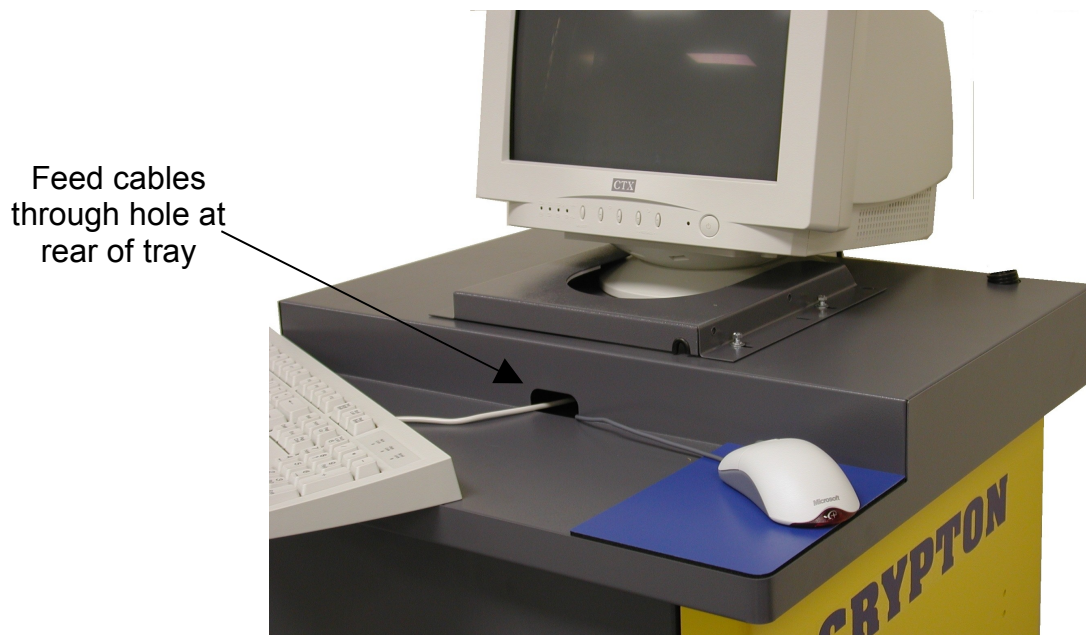
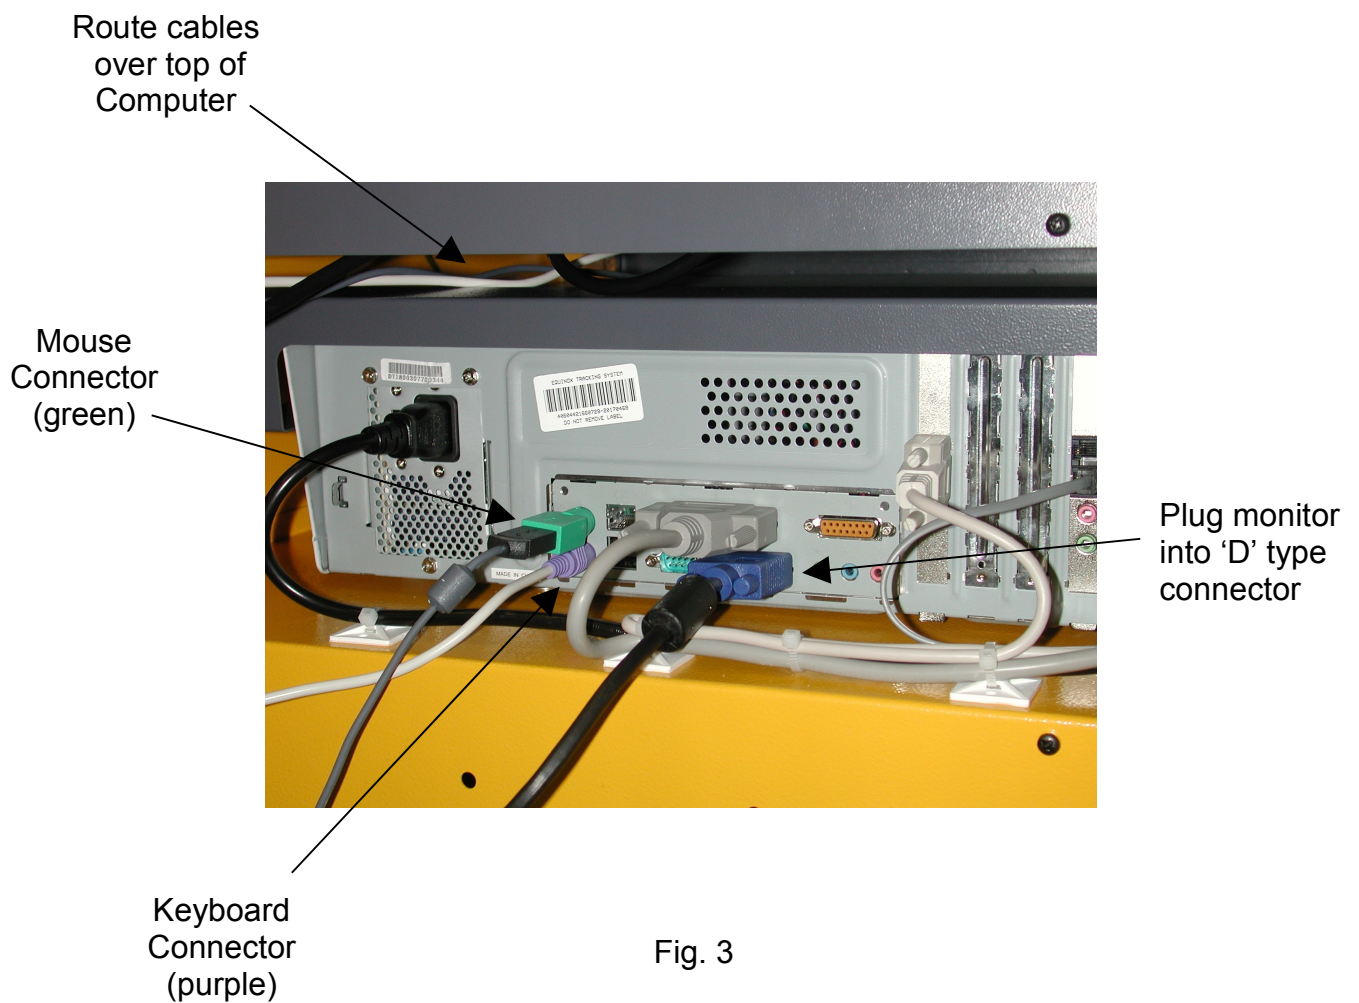
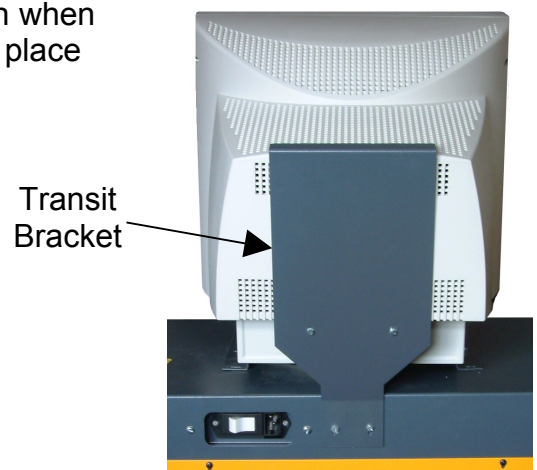

Fig. 2
Fig. 3
Fig. 4b
2. Place the keyboard and Mouse on the front tray of the trolley (Fig. 2). Feed the cables through the hole at the back of the tray, over the top of the Computer and plug in to the colour coded connectors on the back of the computer, green for the mouse and purple for the Keyboard. Refer to Fig. 3
5. Plug the mains lead into the socket on the back of the Monitor and the signal lead into the 15 way high density 'D' type connector on the computer as shown in Fig. 3. Tighten the screw locks finger tight. Ensure that there is enough slack left on the cables to allow the Monitor to swivel from side to side. The Transit Bracket must then be secured to the rear of the monitor as shown in Fig. 4b